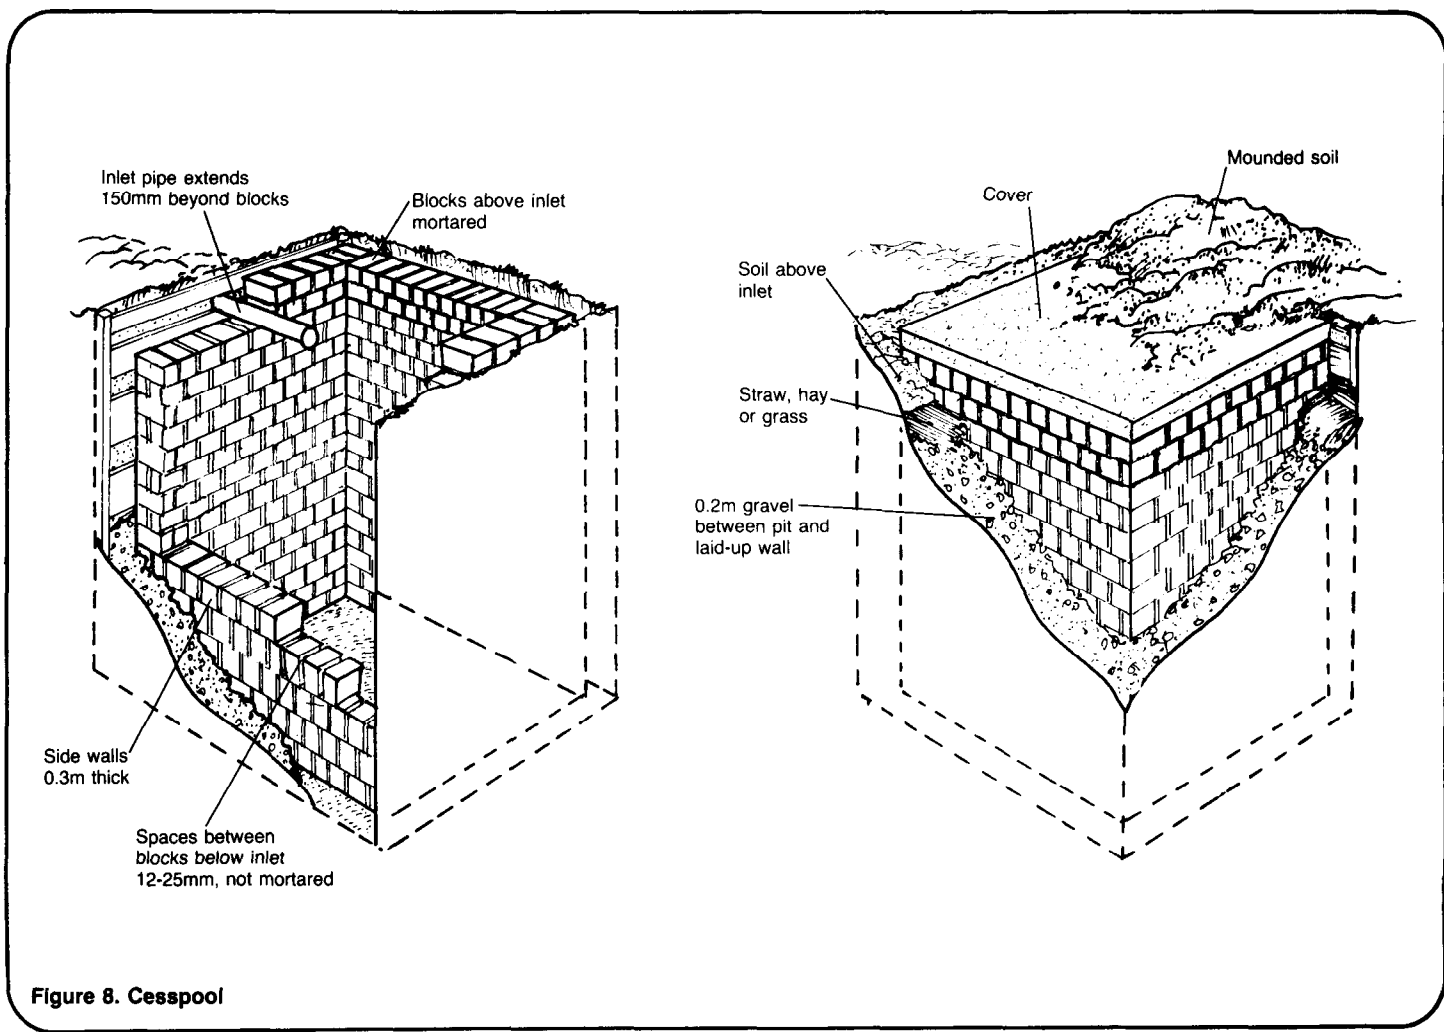

Figure 8. Cesspool
7. Begin laying up the sidewalls using bricks, concrete blocks, or select field stones. Make the walls about 0.3m thick. Leave about 0.2m between each sidewall and the earth wall of the pit. Later, this space will be filled with gravel or crushed rock. Do not mortar the laid-up walls below the inlet. See Figure 8.
10. Fill in the space between the laid-up walls and the earth walls of the pit with gravel, crushed rock, or pebbles. This material may be added as the walls are laid up. When the gravel reaches the level of the inlet pipe, cover it with straw or hay. Fill in the remainder of the space with soil. See Figure 8.
12. Set the cover in place and waterproof around the edges. Cover and mound with dirt. See Figure 8.